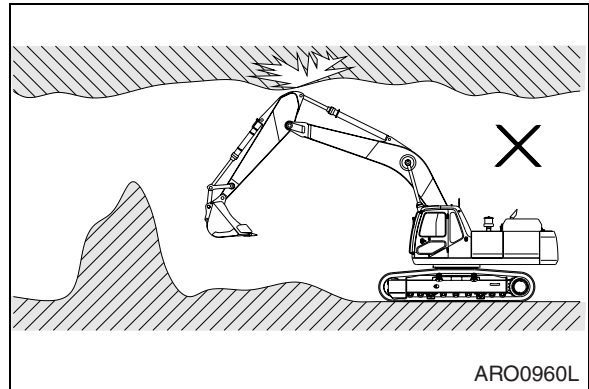

Figure 60
12. If the excavation is in an underground location or in a building, make sure that there is adequate overhead clearance and that there is adequate ventilation. See Figure 60.